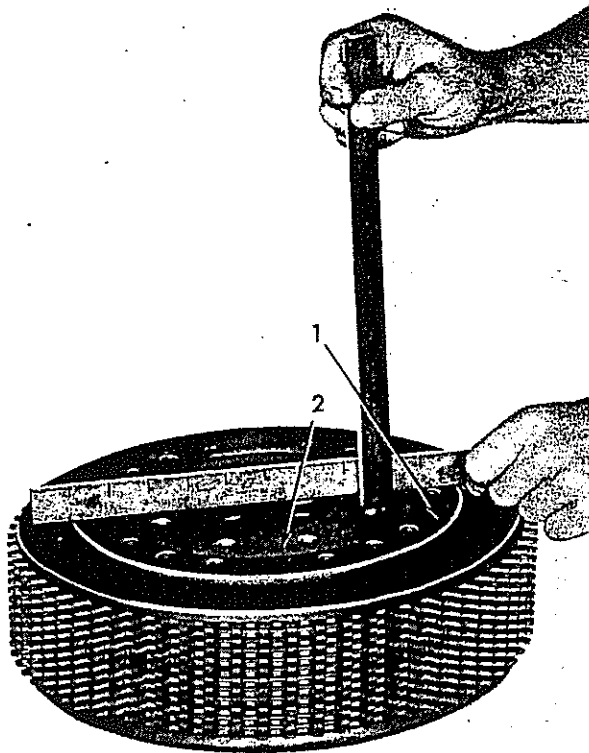

Fig. 16 -- Measuring Distance From Clutch Hub To
13. Refer to Fig. 16 and measure distance (stand-in) between machined face of clutch hub and face of throwout plate.